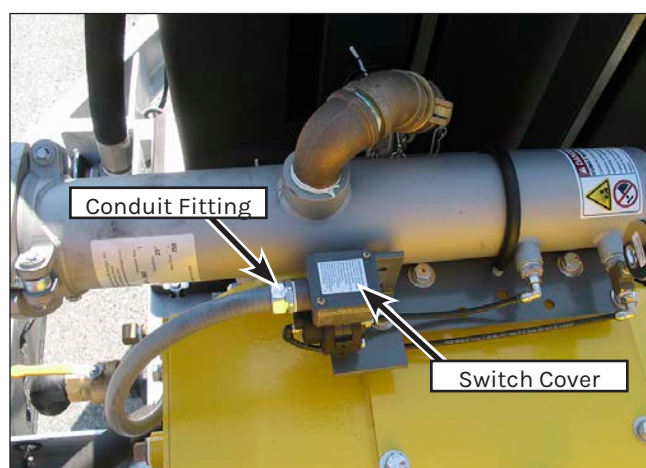

Figure 172: 40K Switch Wiring.
4. If equipped, the secondary filter switch must be disconnected. Remove the two screws that secure the switch cover (Figure 172) and disconnect the wiring. Unscrew the conduit fitting from the switch housing and lay the conduit and wiring aside.